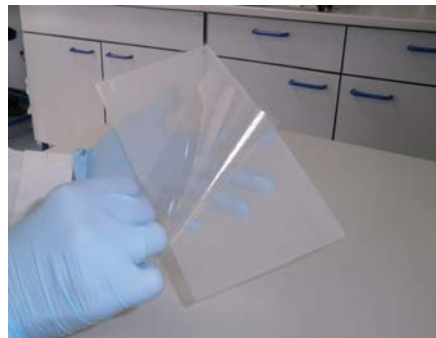

Fig. 4
7. Remove cover film from the side with the rounded edge (Fig. 4)